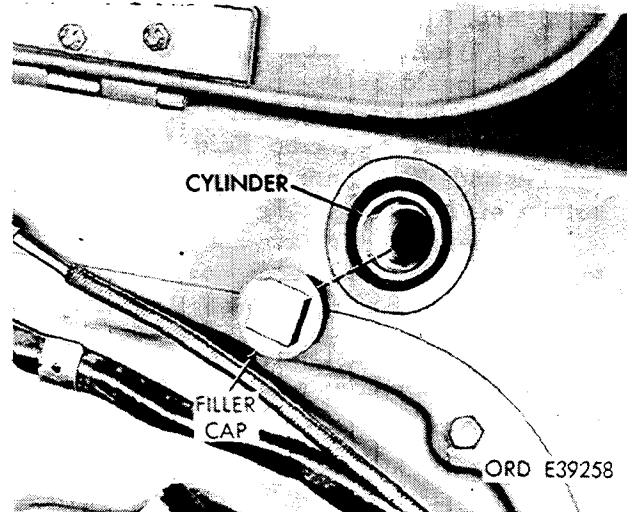

Figure 2-368. Check hydraulic fuel level in master cylinder.
(1) Check hydraulic fluid level in master cylinder and fill with proper fluid until fluid reaches bottom of thread level (fig. 2-368).